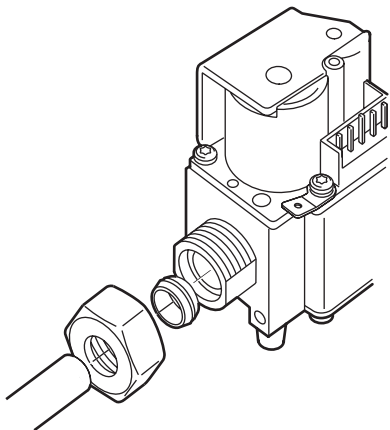

Fig. 6. External thread connection with nut and olive
- ❸ With nut and olive (see fig. 6.)